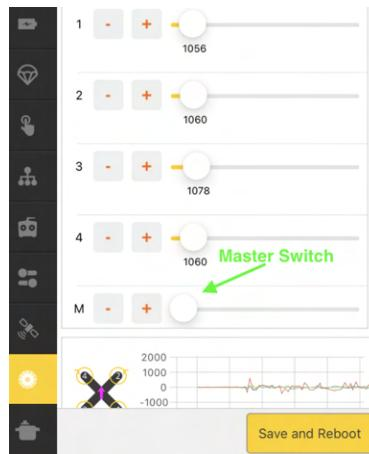

Fig. 4.1 Increasing motor speeds on the SpeedyBee app using the master switch
- We tested each motor or turned them on individually one at a time on the speedybee app and each one went to the fullest capacity. We then turned on and increased throttle on all motors (using the master switch pointed, see Fig. 4.1)